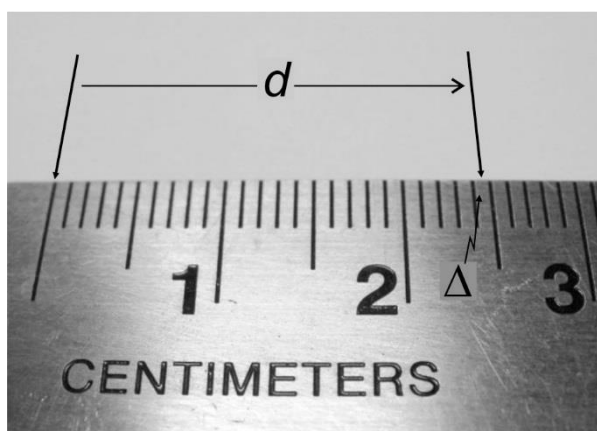

Figure 1 The distance a pointer moved through
1. Assume that the pointer in figure 1 slid along the ruler from the 0 mark up to the indicated position. How far did it move along the ruler? Include an estimate for the fraction of the millimeter distance, Δ , in your value for d . Give your answer in millimeters.